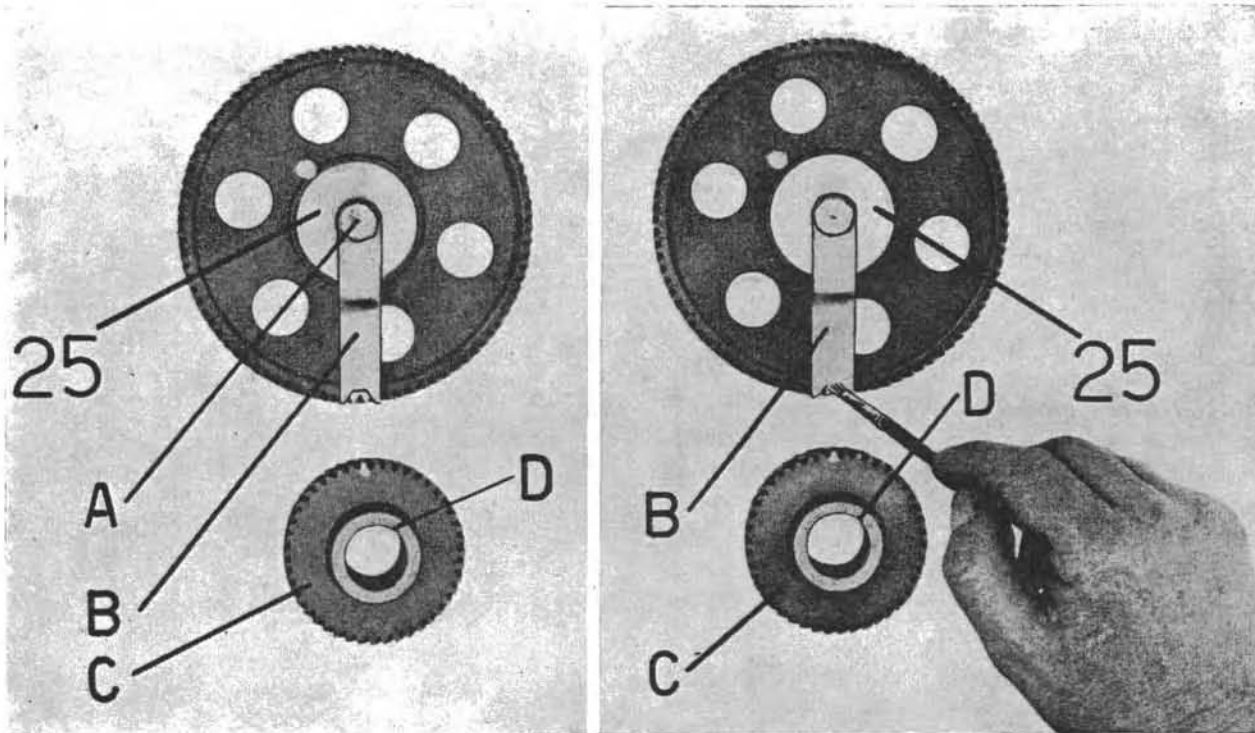

Fig. 58
- insert dowel of tool No. 12913800 (see 25 on Fig. 58) in marked cam wheel slot (the same in which camshaft dowel was previously located).
- undo bolt (A) of above tool and rotate tool arm (B) until notch at end of same gets in between the two marked teeth. Then screw down bolt (A).
- remove tool from wheel to be replaced and apply it to new wheel. Insert tool dowel in each of the five slots until notch at arm's end (B) will comprise perfectly **two teeth** of the new wheel. Now mark with paint the two teeth comprised in arm notch and the slot in which the tool dowel is inserted.